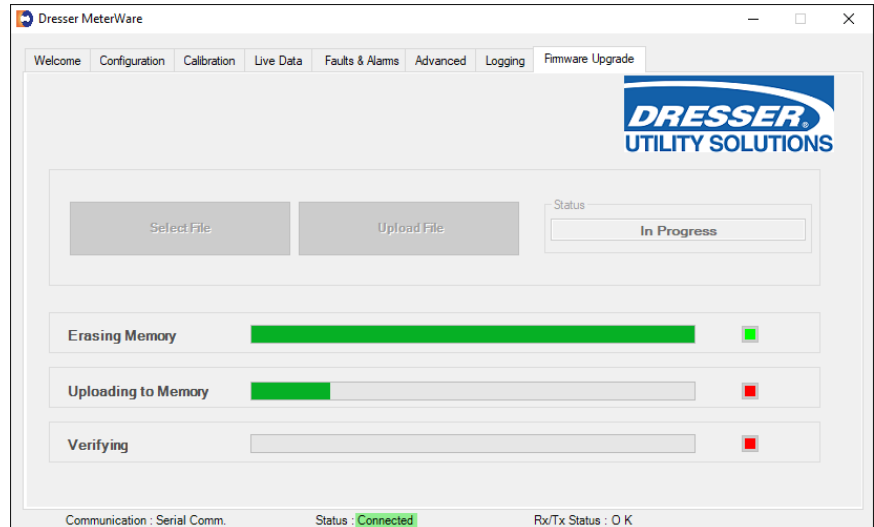

Figure 12.8 Example - Progression of three steps for uploading the new firmware to the unit
1. There are three status bars, which will move across the screen as each of the three steps is completed. Refer to Figure 12.8 Example.